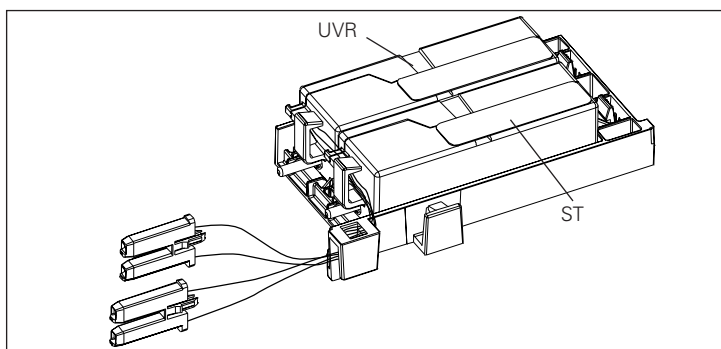

Figure 15. Step 8 (RF Frame Shown).
Step 9: The left accessory tray should look as shown in Figure 15 with two accessories installed and secondary wires properly routed.